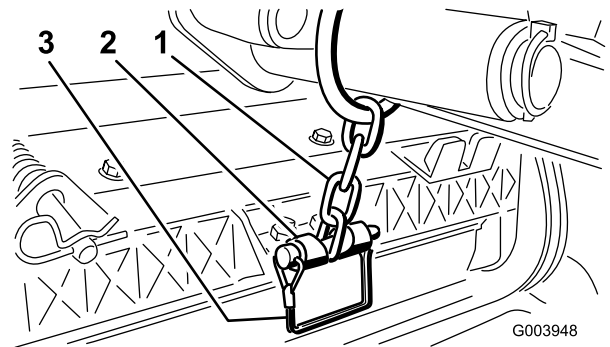

Figure 12
12. Secure the lift-arm chain to the chain bracket with the snapper pin (Figure 12). Use the number of chain links described in the cutting unit *Operator's Manual*.